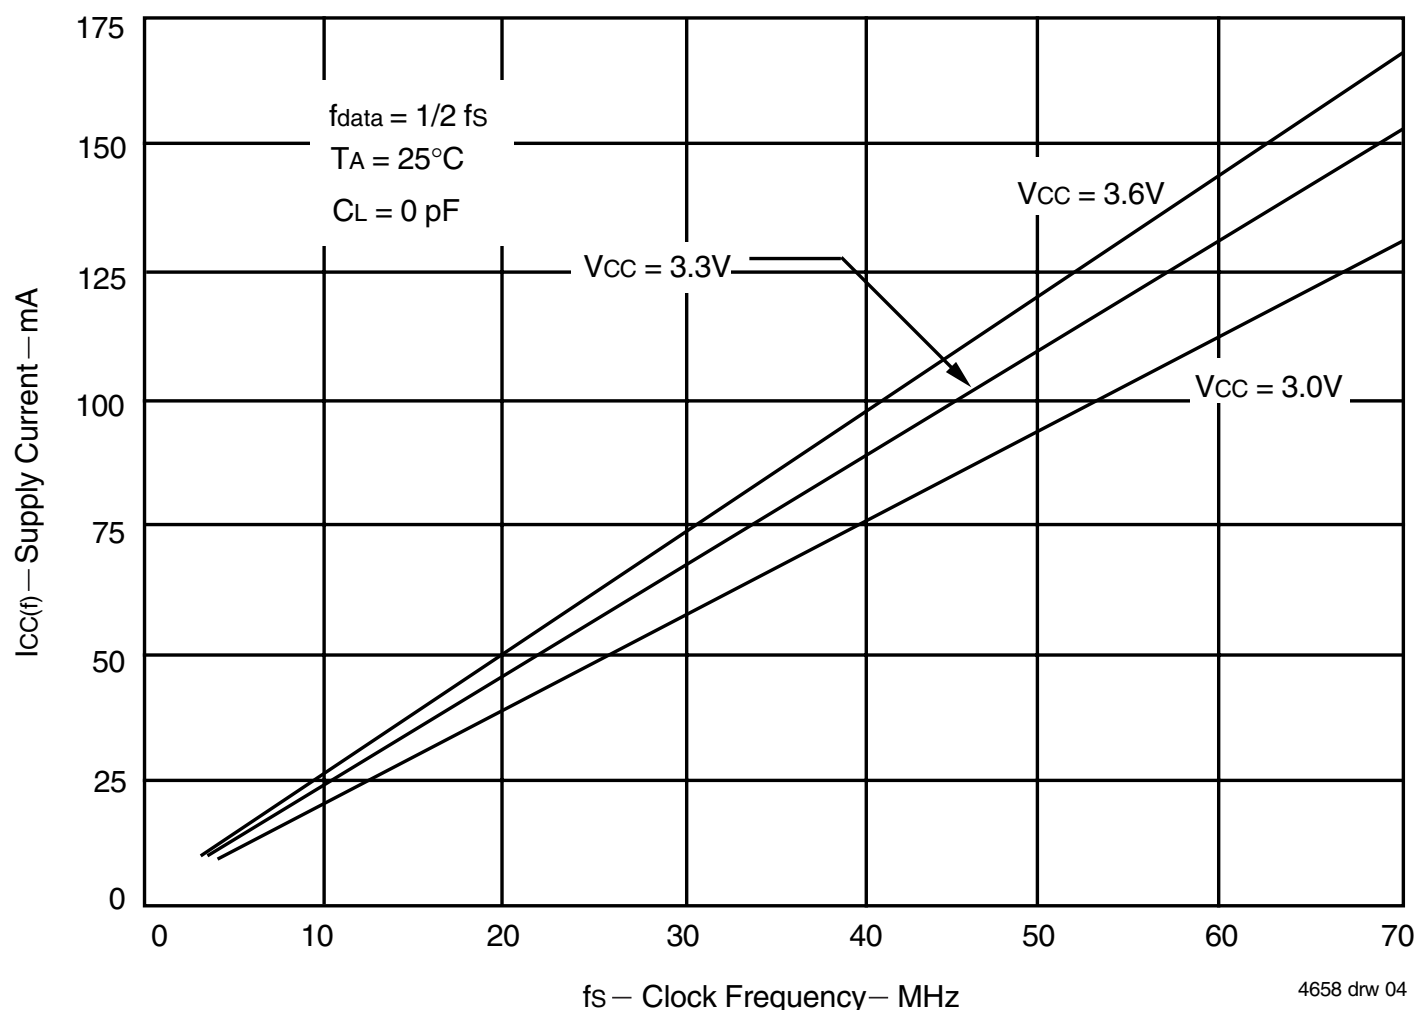

Figure 1. Typical Characteristics: Supply Current (I_{CC}) vs. Clock Frequency (f_s)
- For additional I_{CC} information, see Figure 1, *Typical Characteristics: Supply Current (I_{CC}) vs. Clock Frequency (f_s)*.
The $I_{CC}(f)$ current for the graph in Figure 1 was taken while simultaneously reading and writing the FIFO on the IDT72V3641 with CLKA and CLKB set to f_s . All data inputs and data outputs change state during each clock cycle to consume the highest supply current. Data outputs were disconnected to normalize the graph to a zero-capacitance load. Once the capacitance load per data-output channel and the number of IDT72V3631/72V3641 inputs driven by TTL HIGH levels are known, the power dissipation can be calculated with the equation below.
With $I_{CC}(f)$ taken from Figure 1, the maximum power dissipation (PT) of these FIFOs may be calculated by: